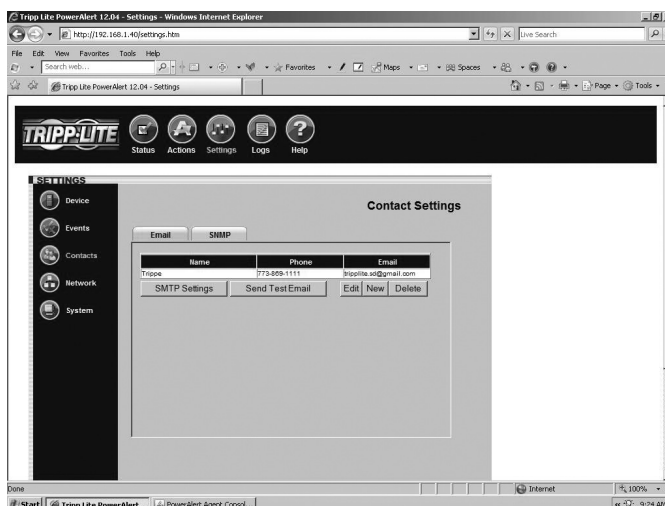

Figure 3-13: Settings > Contacts > Email Tab
- **“Contact Notification”**—Sends an e-mail to an e-mail address(es) in your contact list. (Requires an e-mail contact to be set. See **Figure 3.13 Settings > Contacts**.)
The “Email” tab (Figure 3-13) shows a table of e-mail contacts. Before your SNMPWEBCARD can send e-mail notifications, you must enter e-mail server information and add at least one e-mail contact. Click the “SMTP Settings” button to enter the settings for your mail server. If you do not know the correct settings, contact your network administrator. Add a new email contact by clicking the “New” button and entering the information requested, and save. Test your settings by highlighting/selecting an email contact, then click the “Send Test Email” button.